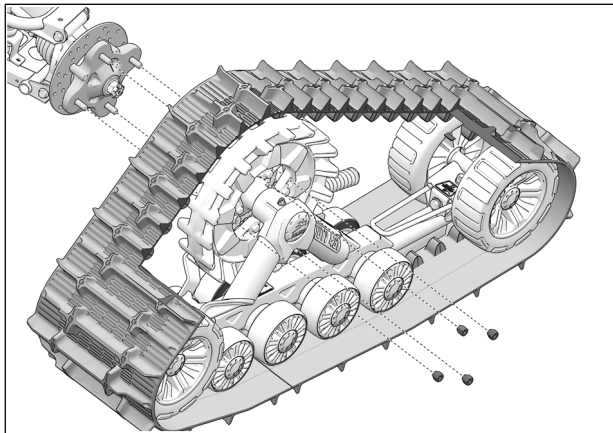

Fig. 10
- Secure undercarriage to rear hub using the vehicle's wheel nuts. See Fig. 10
- Using the vehicle's wheel nuts, secure undercarriages to front wheel hubs. The procedure and precautions are the same as for rear units. See Fig. 10